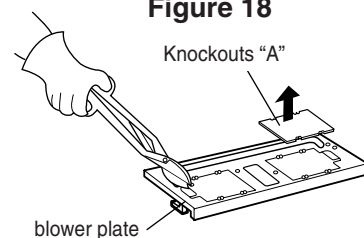

Figure 19
2. Use side cutter or thin snips to cut and remove knockouts "A" from Blower plate. Discard knockouts. Be careful not to distort the plate. See Figure 19.